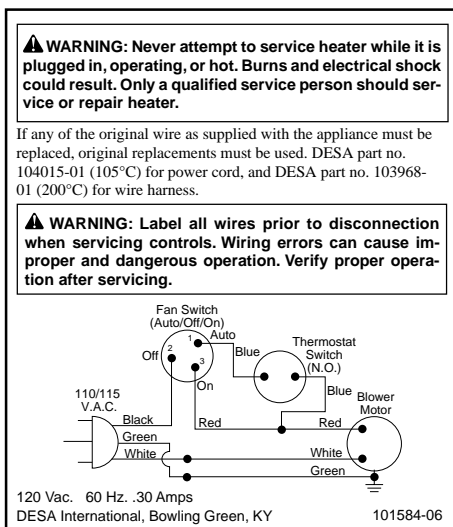

Figure 18 - Wiring Diagram For Fan Accessory Built-In Installation
4. A licensed electrician must follow the wiring diagram in Figure 18 to connect incoming electrical supply to fan kit wiring harness.